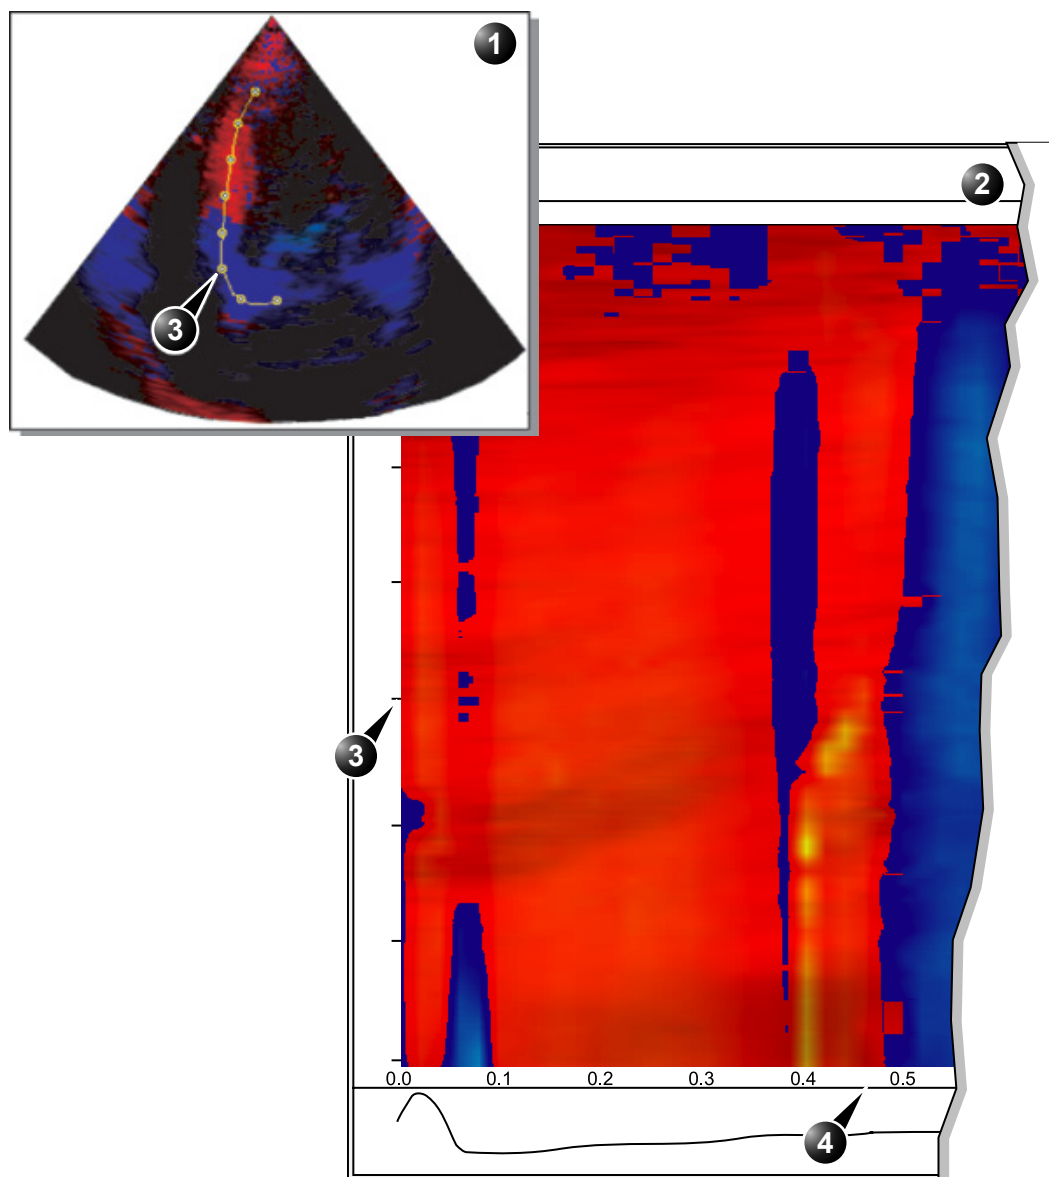

Figure 6-15: The anatomical M-Mode display (here TVI data)
5. Double click the **Left mouse button** to end the trace. The color-coded display of the corresponding data calculated along the path is shown in the *Analysis window* (see Figure 6-15).